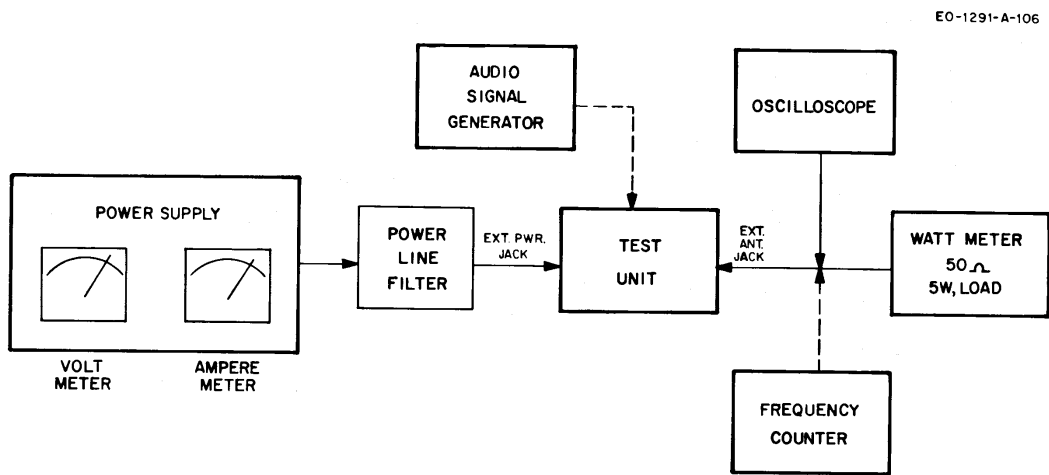

Figure 3-2. Equipment Set-up, Transmitter Alignment
2. Connect the remainder of the test equipment as shown in Figure 3-2.